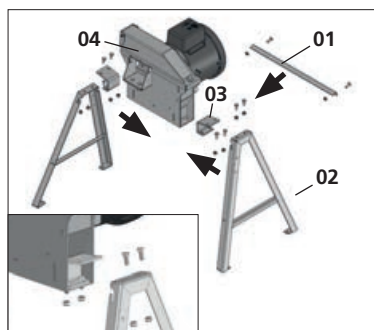

Fig. 01
Attach the supporting rod (1) to the back of the supports (2) using M8 x 20 mm screws and nuts. Next, position and attach the lower part of the connecting plate (3) to the shredder body (4) and the upper part of the plate to the upper part of the support (2) using M8 x 20 mm screws and nuts [Fig. 01].